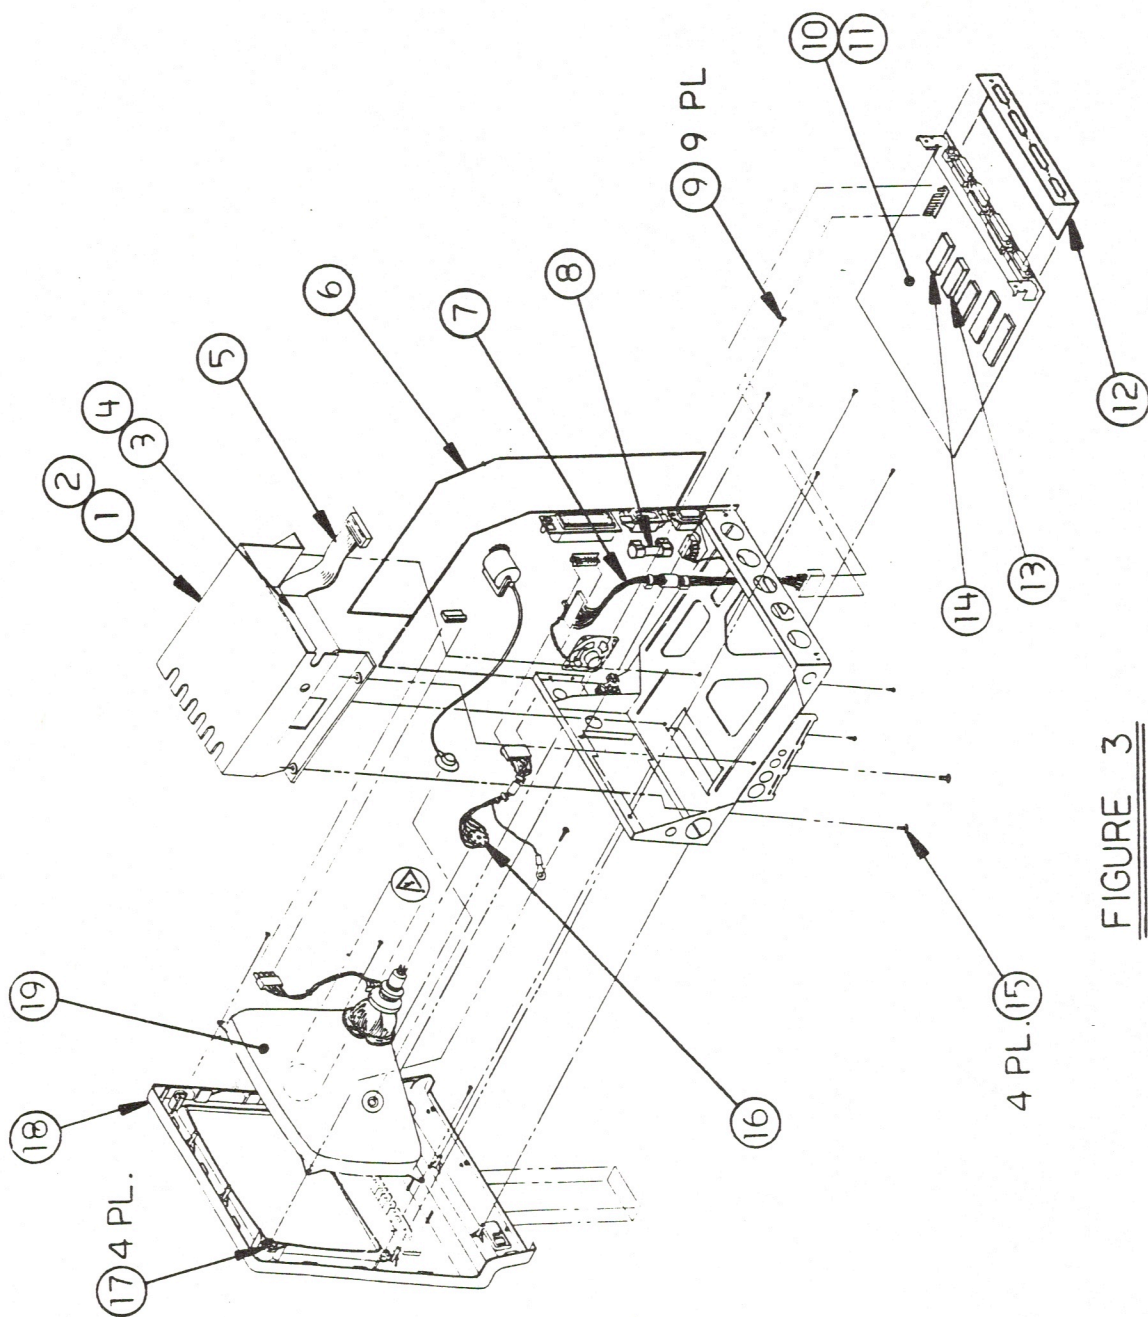

FIGURE 3
□ MACINTOSH – EXPLODED ASSEMBLY (Figure 3)